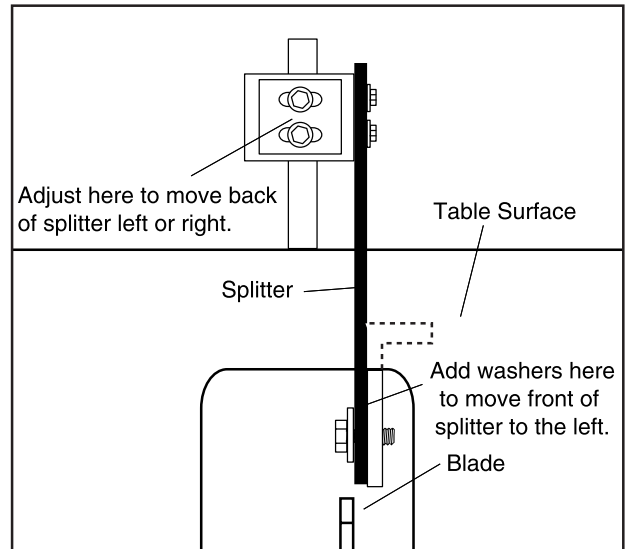
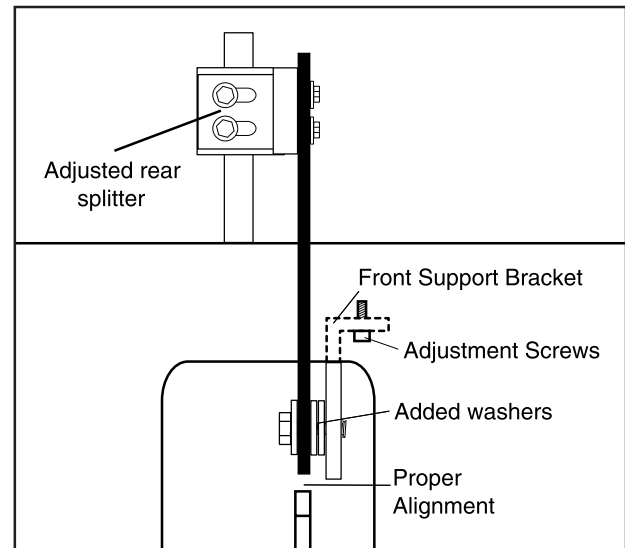

Figure 31. Improper splitter/blade alignment.
Figure 32. Proper splitter/blade alignment.
—If the blade splitter is to the right of the blade as shown in **Figure 31**, add washers between the splitter and the front mounting bracket, and adjust the rear splitter support as shown in **Figure 32**.
—If the splitter is positioned to the left of the blade, alignment cannot be achieved by washer placement. Adjustment of the front support bracket is required. See **Figure 32** for adjustment details. Loosen the (2) adjustment screws and move left or right.